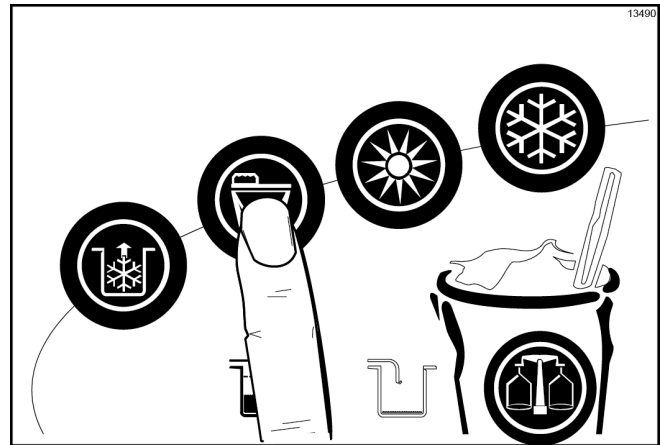

Figure-159
- Press the Wash symbol . This will cause the sanitizing solution in the freezing cylinder to come in contact with all areas of the freezing cylinder. (See Figure-159.)